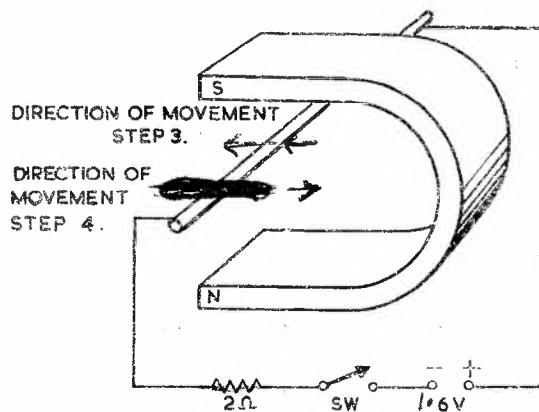

FIG. 1.
STEP 1. Connect the motor-principle model in circuit, as shown in Fig. 1.
STEP 3. Close the switch and observe the direction of conductor movement. Record the direction of conductor movement on Fig. 1.
STEP 4. Reverse the current, and observe the direction of conductor movement. Record the direction of movement on Fig. 1.